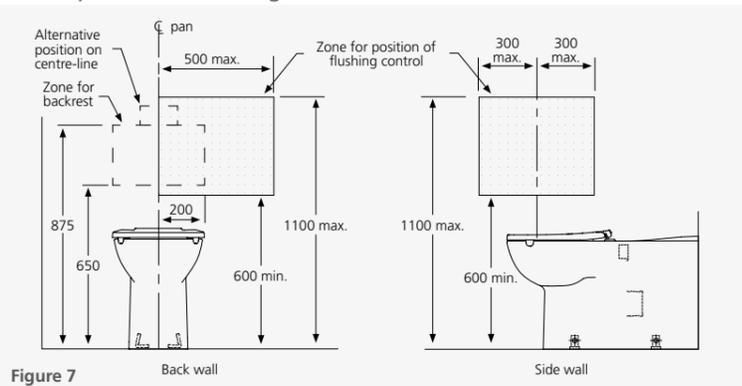

Figure 7
**Flushing controls**, hand-operated or automatic hand-operated, should be used and located within the zone shown in Figure 7, or centred on the centre-line of the toilet completely within the vertical limits of the zone. The position of the control within this zone shall not be within the area required for grab rails or back rest. The flushing control should stand proud of the surface and activate the flush before the button becomes level with the surrounding surface.